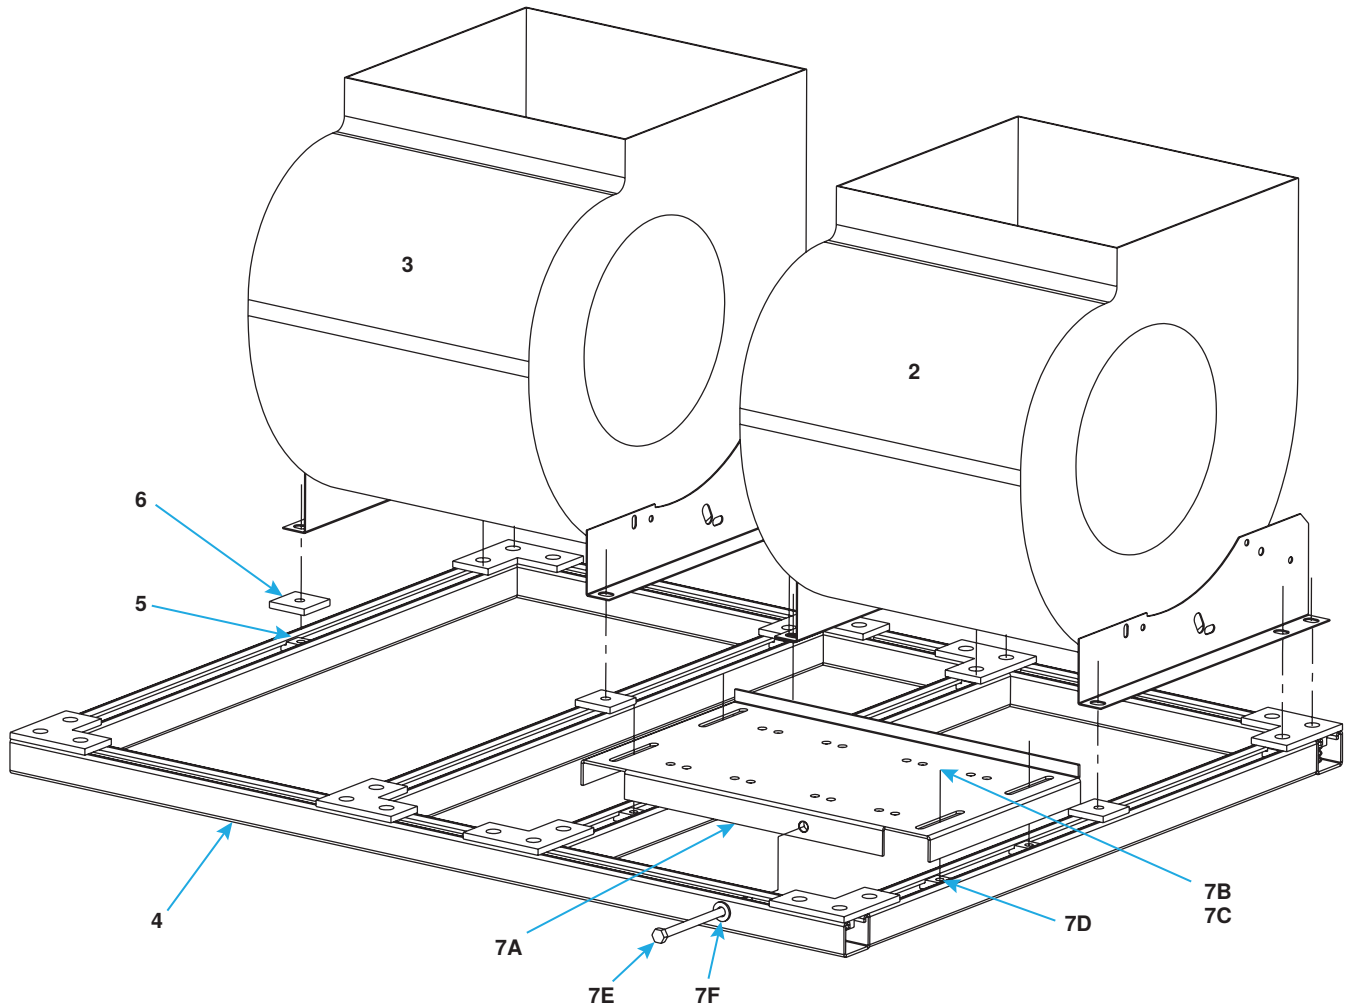

Figure 4. Typical Blower Components (Refer to Table 10)
- The assembly shown in Figure 4 is the strut base, dual blowers, and motor mounting plate for 2- to 5-HP belt-driven motors on unit sizes 250, 300, 350, and 400,